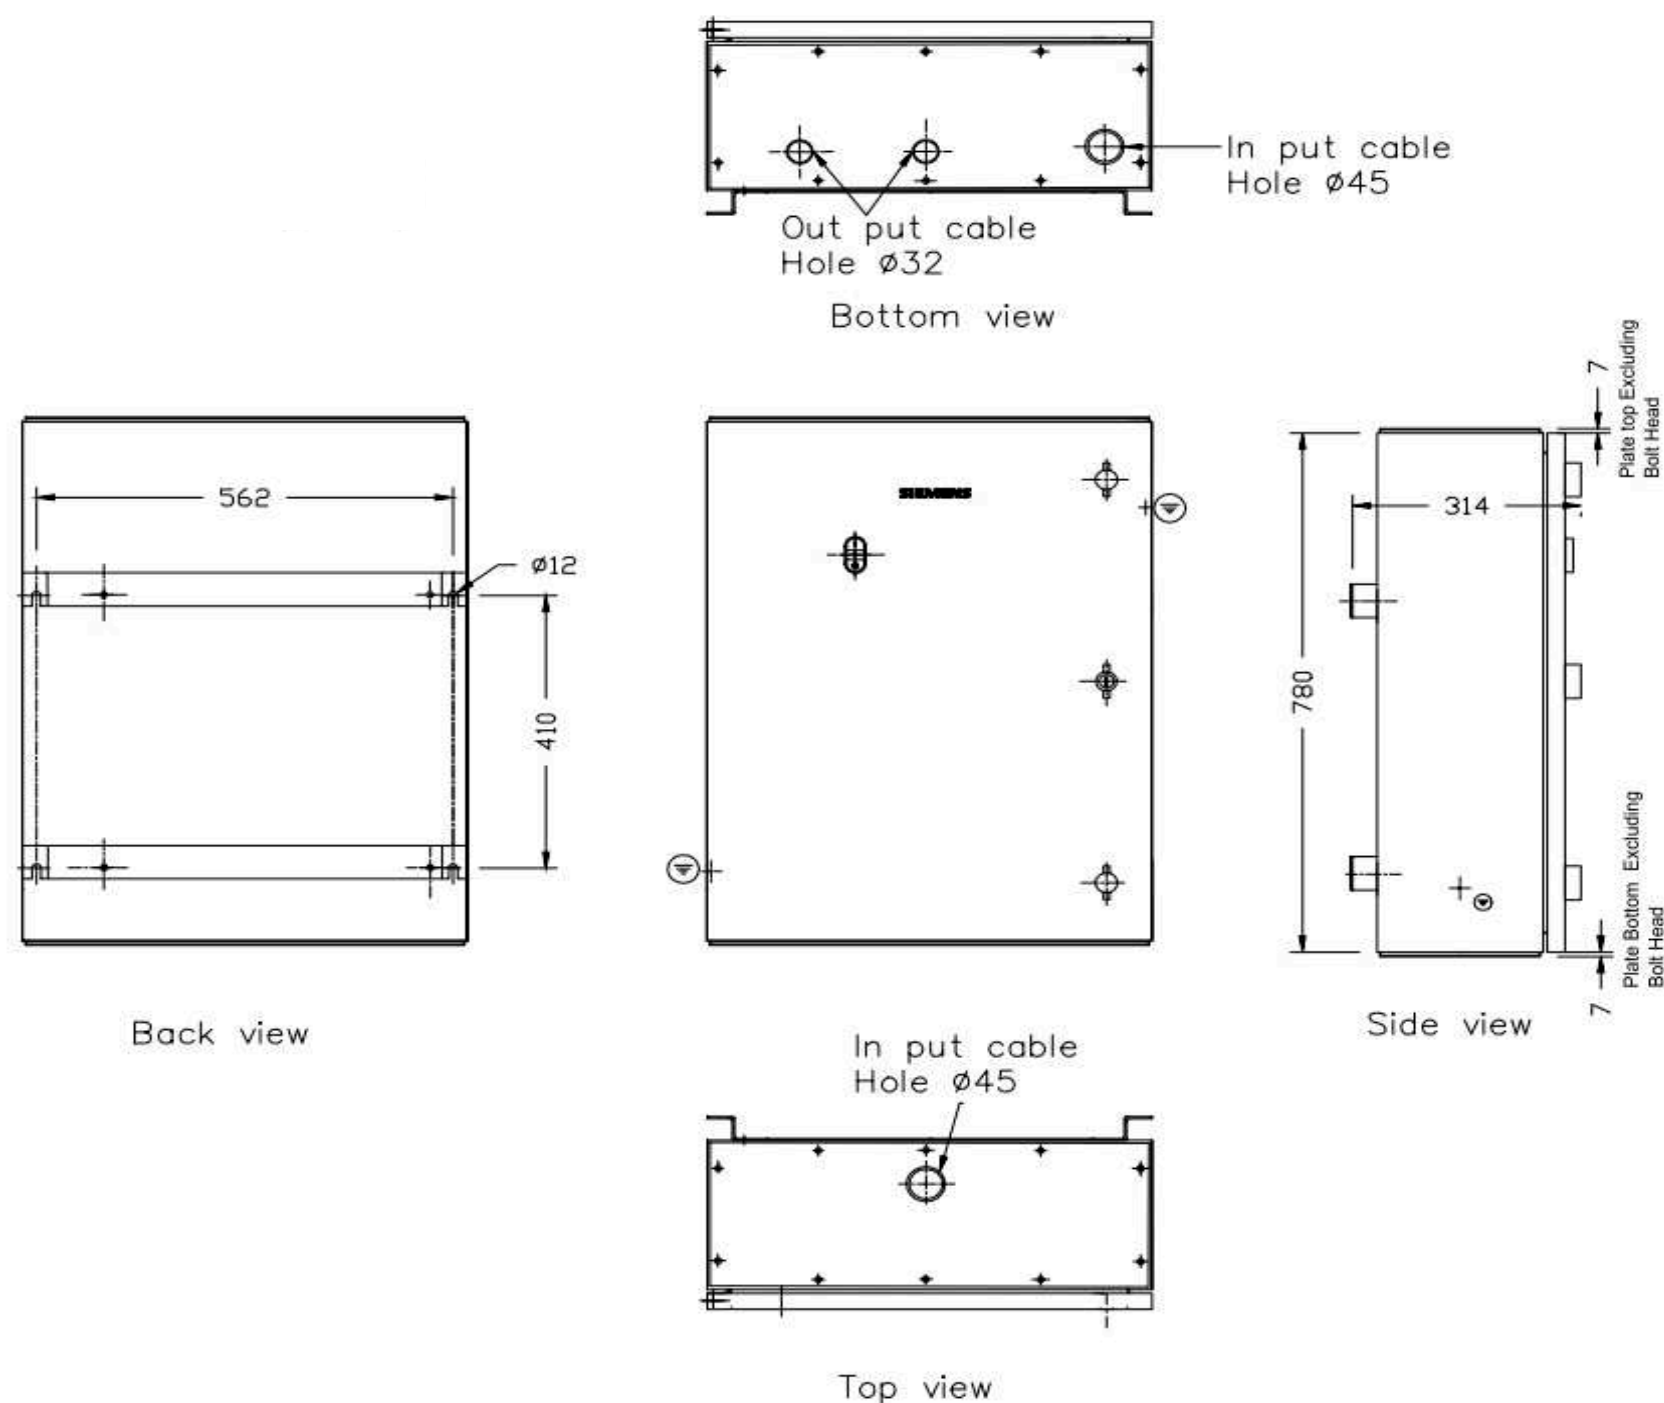

Figure 8: External and Mounting Dimensions
- 2 Refer figure 8 for the mounting dimensions and figure 4 for permissible mounted angle.